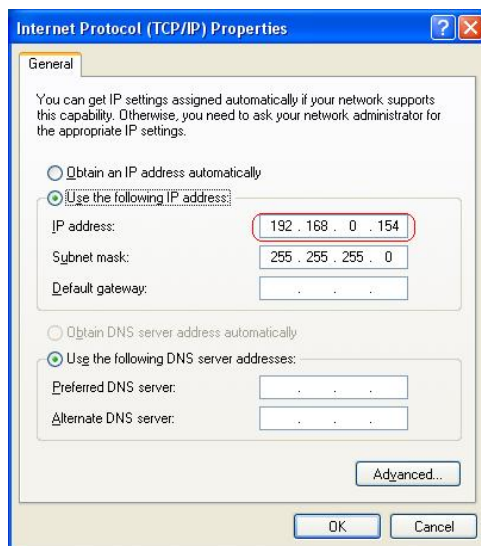

Figure 7-1
- Give the GV-ASManager a fixed IP address that is NOT used by another device. See Figure 7-1.